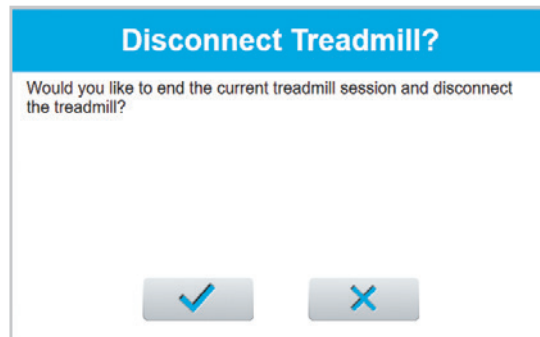

Figure 6-18: Disconnect Treadmill Confirmation Dialog Box
- To end the treadmill session, press the Stop button and confirm on the dialog box. See Figure 6-18.